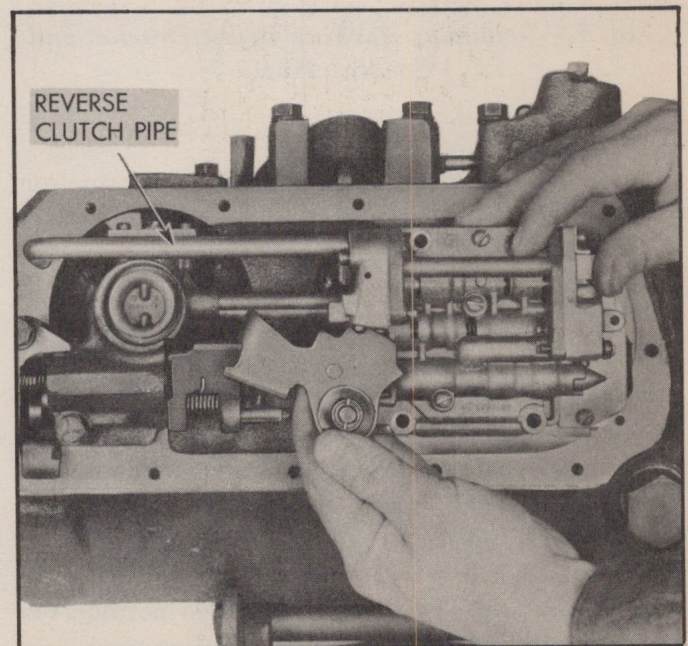

Fig. 92—Removing Control Valve Assembly
13. Remove four bolts holding control valve assembly to case. Work control valve assembly toward front of case to remove (Fig. 92). Governor pipes may remain either in valve body or parking brake bracket. Remove pipes from either assembly and remove reverse clutch oil pipe from case.